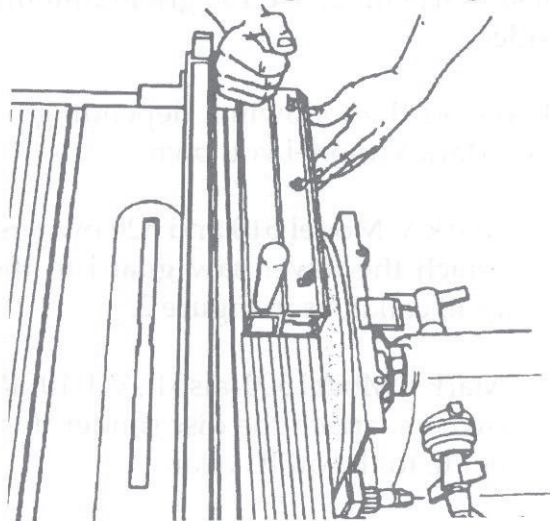

Figure 7
11. Place the Knife Sharpener on the worktable with the knife touching the center of the conical sanding disc, see Figure 7.
11. Place the Knife Sharpener on the worktable with the knife touching the center of the conical sanding disc, as shown in Figure 7.